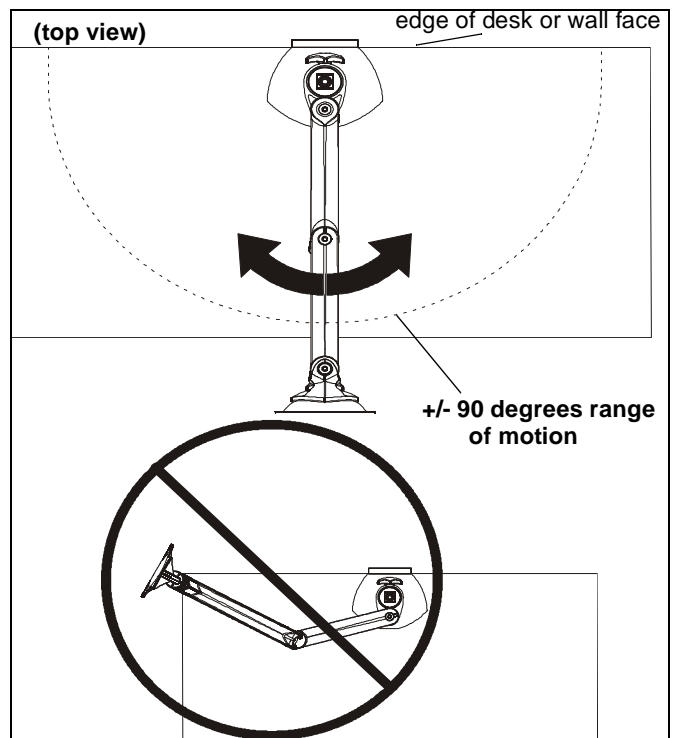

Figure 12
- Adjust arm angle as desired up to 90 degrees in either direction. (See Figure 12)